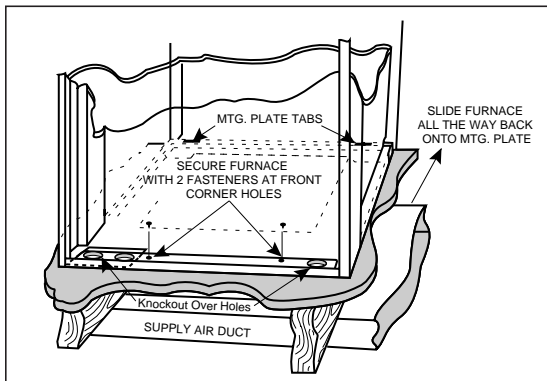

Figure 19. "A", "B", & Platinum Cabinet Furnaces
- d. Secure front with one (1) fastener at each corner (See Figure 19 or 20).